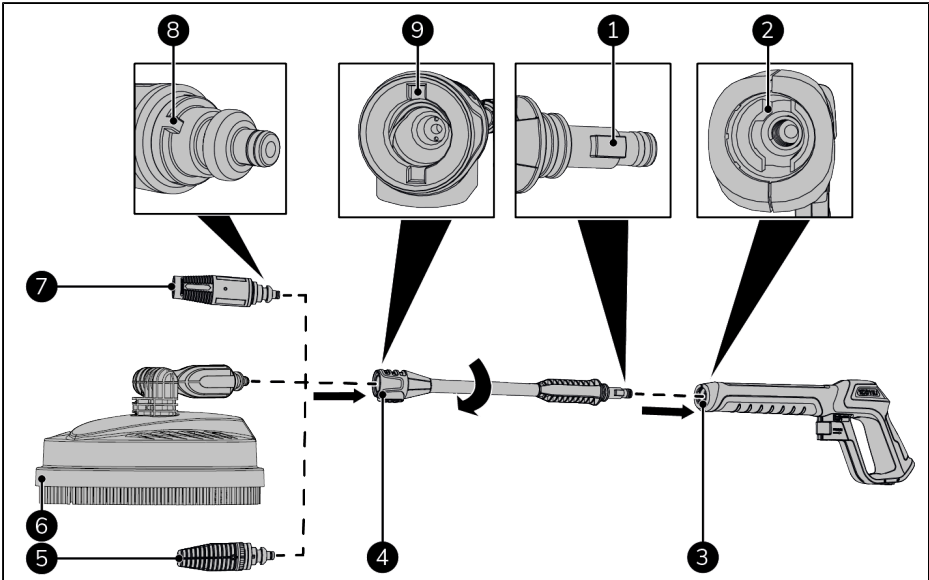

Figure 33.
1. Align the ridge of the nozzle or the floor cleaner (Figure 33, pos. 8) with the groove in the extension lance (Figure 33, pos. 9).
2. Insert the nozzle or floor cleaner (Figure 33, pos. 5, 6 or 7) into the extension lance (Figure 33, pos. 4).
4. Align the ridge of the extension lance (Figure 33, pos. 1) with the groove in the jet gun (Figure 33, pos. 2).
5. Insert the extension lance (Figure 33, pos. 4) into the jet gun (Figure 33, pos. 3).